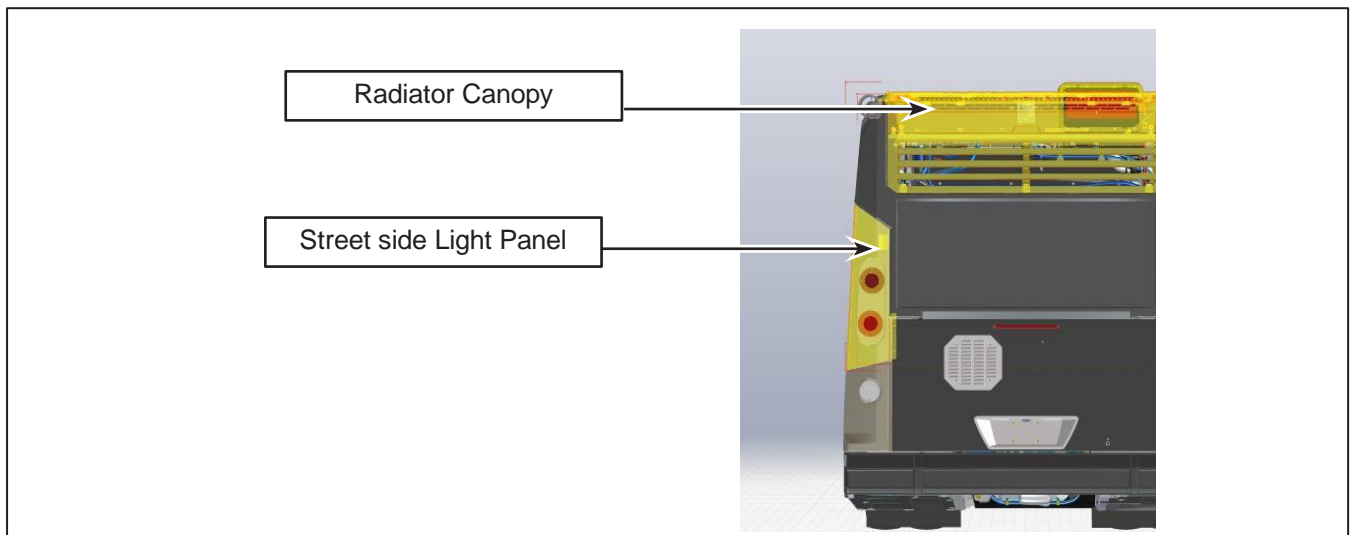

Figure 1 - Radiator Canopy and Street Side Light Panel to Remove
- 1.4. Open the radiator canopy. See Figure 1.
- 1.5. Remove the street side light panel. Retain the panel and hardware. See Figure 1.